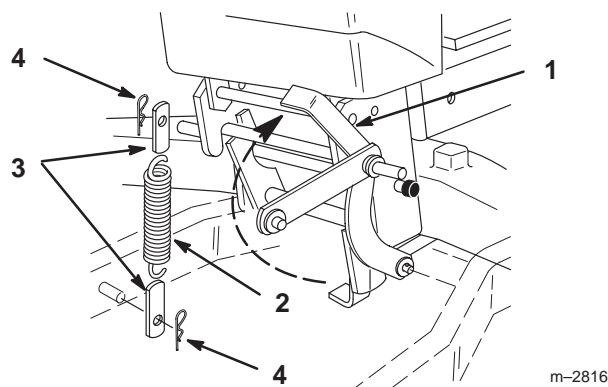

Figure 13
14. Raise arm of lift link into the relaxed position (Fig. 13).
15. Install lift spring between frame and lift link with retainers, inside body of spring, and secure with hairpin cotters (Fig. 13).
16. Push arm of lift link down into locked position (Fig. 13).